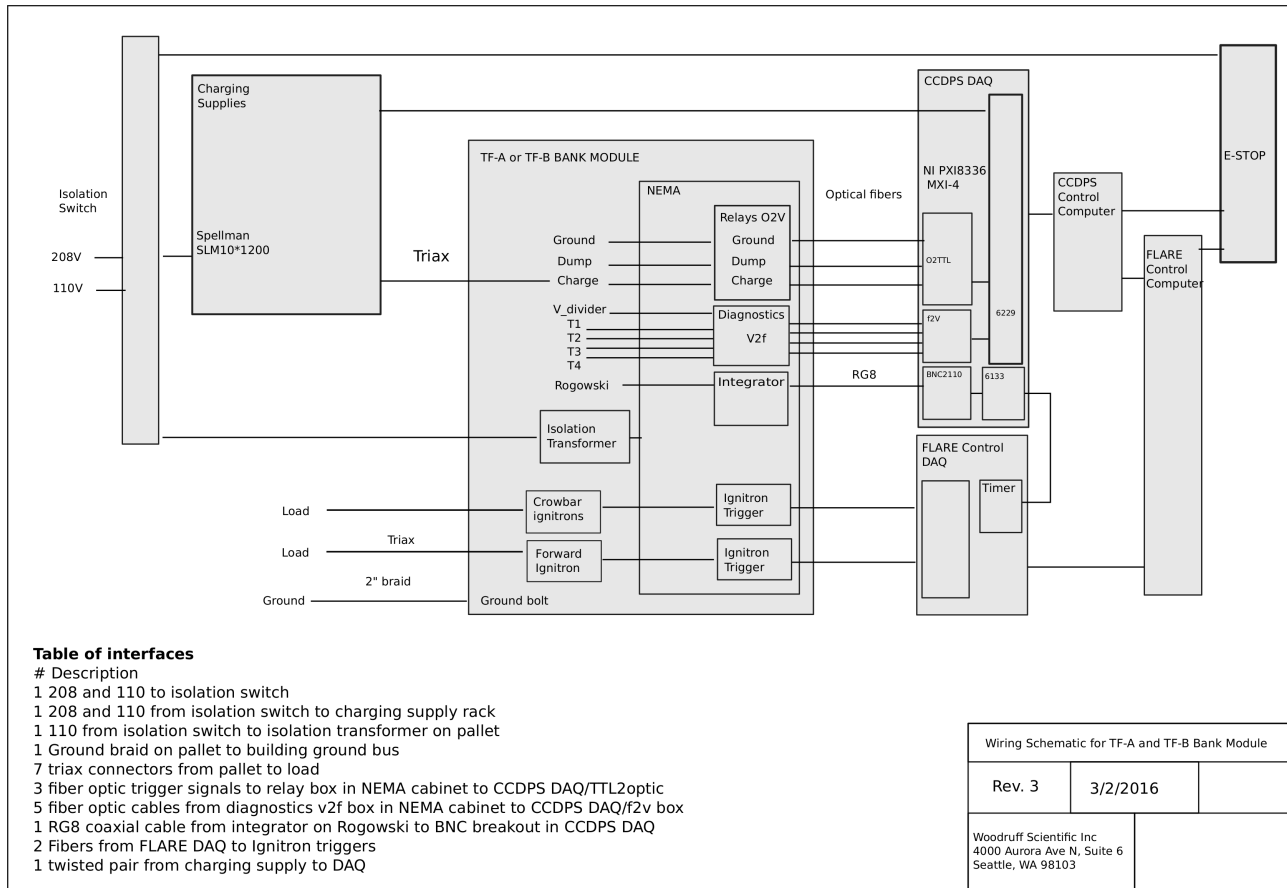
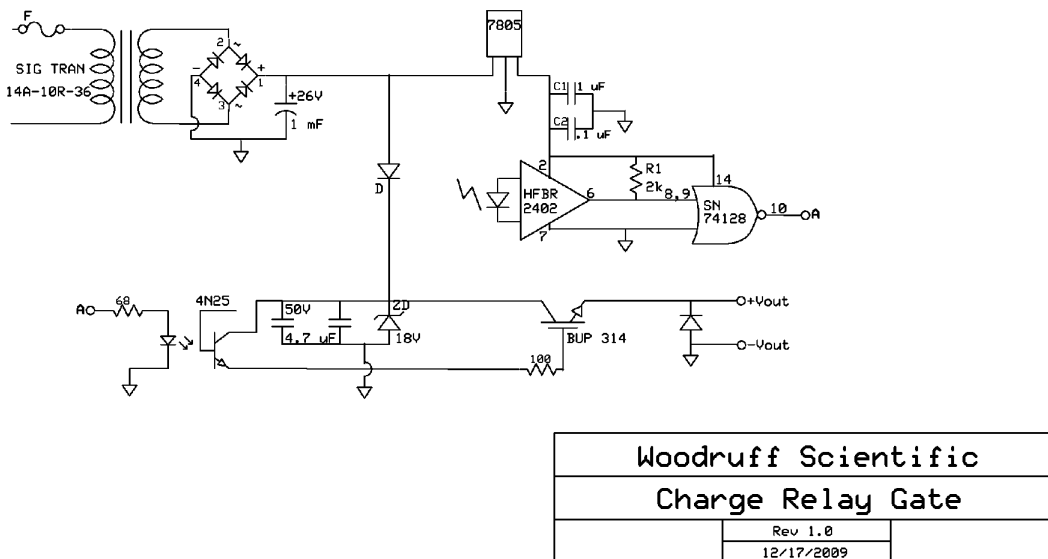

Figure 10: Connections between CCDPS sub-assemblies.
Figure 11: Schematic for charge, dump and ground relay control.
The connection schematic shows all of the connections that need to be made to the bank modules, power and control systems. From the left of Fig. 10, 208 and 110 power is fed to the bank enclosures via a Kirk key controlled isolation switch. This same switch can be energized by an Emergency Stop (E-stop) button located in the control room (this E-stop is digitized by both the FLARE control DAQ and the CCDPS control DAQ). If energized, the switch will drop all power to the enclosure, thereby killing power to the HV dump (normally closed) and charge (normally open) relays, and dumping bank energy into the cap dumps. The 110 and 208 power is delivered to the charging supply rack (located on it's own separate pallet), and 110 is also delivered to an isolation transformer mounted on the bank module pallet. Connections to the load are made by multiple triax cables (described above). Water is connected to the ignitron switches along 1/4" tubes from a shared chiller unit. The charge, dump ground relays are controlled by individual fiber-optic-enabled switches, with pulse signals sent from the CCDPS DAQ rack (Schematic shown in Fig. 11). Temperature sensor data are transmitted by fiber-optics from the pallet to the DAQ after conversion of voltage to frequency, then reconvertng at the DAQ. A BNC connection is made from the current sensor integrator to the DAQ fast data acquisition (sampling at at least 1MHz). Timing synchronization is provided by the FLARE control DAQ. Switch firing is controlled here by the FLARE control computer and DAQ, by transmission of fire signal by fiber-optic connection. CCDPS DAQ requires 110V as input. CCDPS control computer requires 110V as input.
- Control signals needed as inputs: ESTOP and triggers (see Fig. 10)